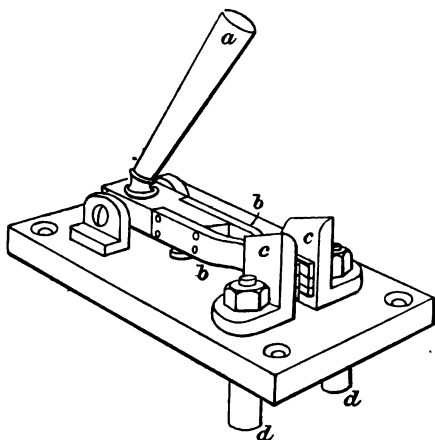

Fig. 21.—Double-break Chopper Switch.
*Single Switch for main Current.*—In the case of small installations single-break switches are considered sufficient. They are also extensively used for sub or branch circuits. In some instances the switch base carries also a cut-out, but this is the exception rather than the rule. Fig. 21 represents the Ediswan chopper pattern of switch, capable of carrying currents up to one hundred amperes. It consists of an insulating lever, jointed upon blocks attached to an enamelled slate base. The handle,